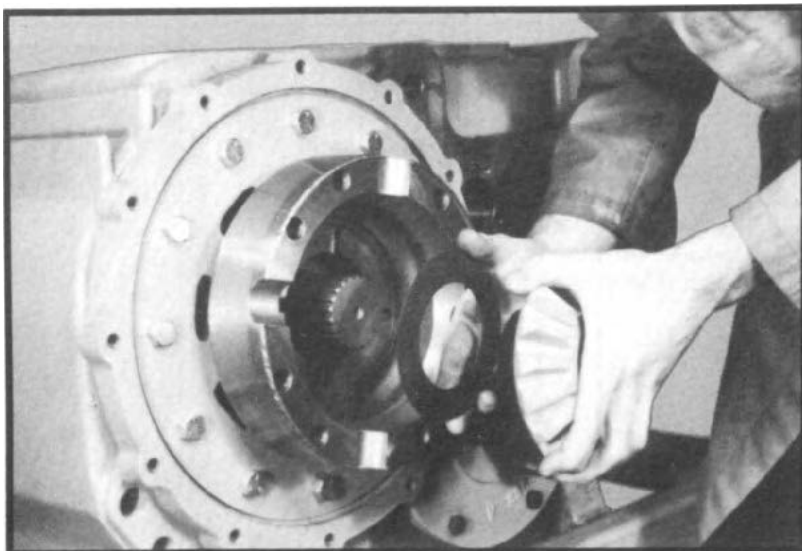

Fig. 49
- 2.13 Remove differential side gear and thrust washer from inner shaft. (See fig. 49.)